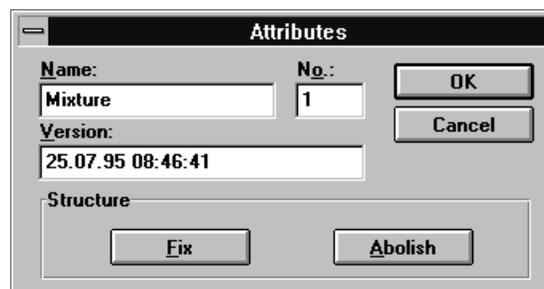

Bild 9-6 Attributes Dialog Box with Settings
1. Click in the *Recipe* dialog box on the *Attributes* button. At this point, modify the name of the recipe to `Mixture`. Freeze the structure of the recipe by clicking on the *Fix* button. All the entries in the recipe are now dimmed. Figure 9-6 shows the *Attributes* dialog box with the settings.